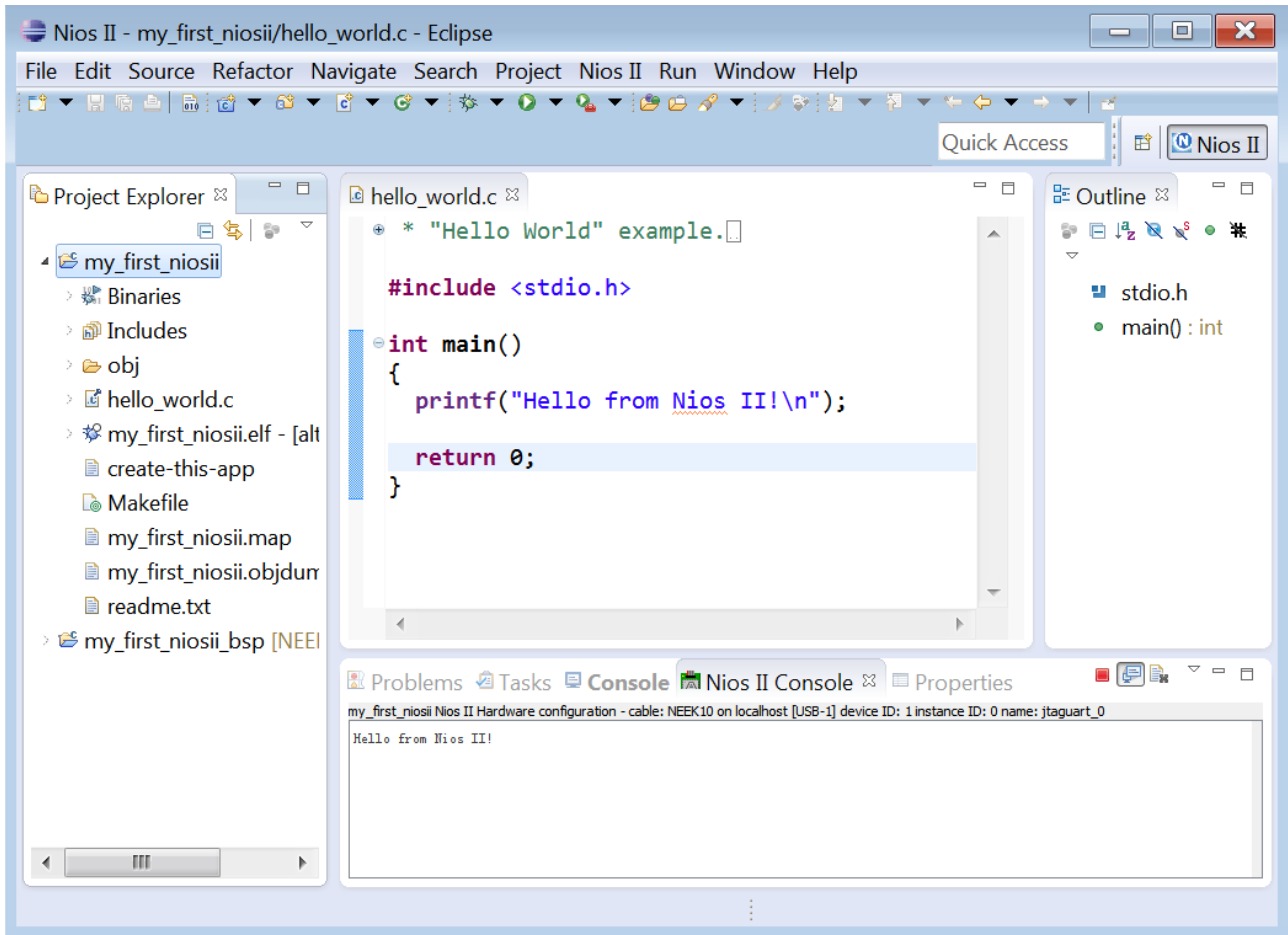

Figure 2-5 Nios II Console display program output
3. After compilation is complete, right-click the **my_first_niosii** project and choose **Run As -> NIOS II Hardware**. The Eclipse will begin to download the program to the MAX10 NEEK board. When the target hardware executes the program, a message **'Hello from Nios II!'** will appear in the Nios II Console window, as shown in **Figure 2-5**.